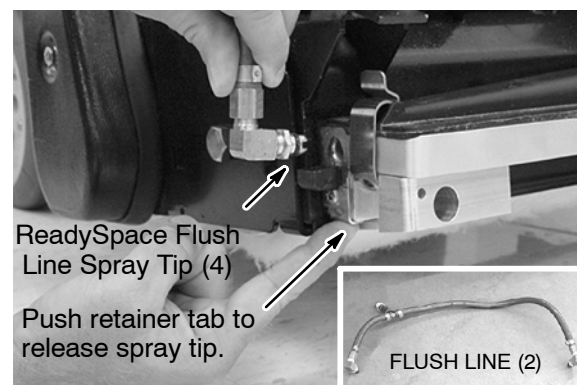

FIG. 41
4. Inspect the spray tip pattern in the two ReadySpace flush lines (4 spray tips). If tips are clogged, remove the flush lines and soak them in an acetic acid solution for up to six hours (Figure 41). Do not remove tips from flush lines.